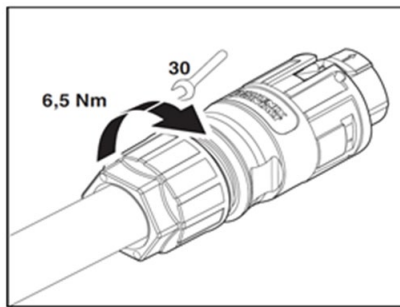

Fig. 18: Tightening the cable fitting
- Tighten the cable fitting with an open-ended spanner [$\times W_{30}/m$ 6.5 Nm] (: Interconnection Fig. 18).